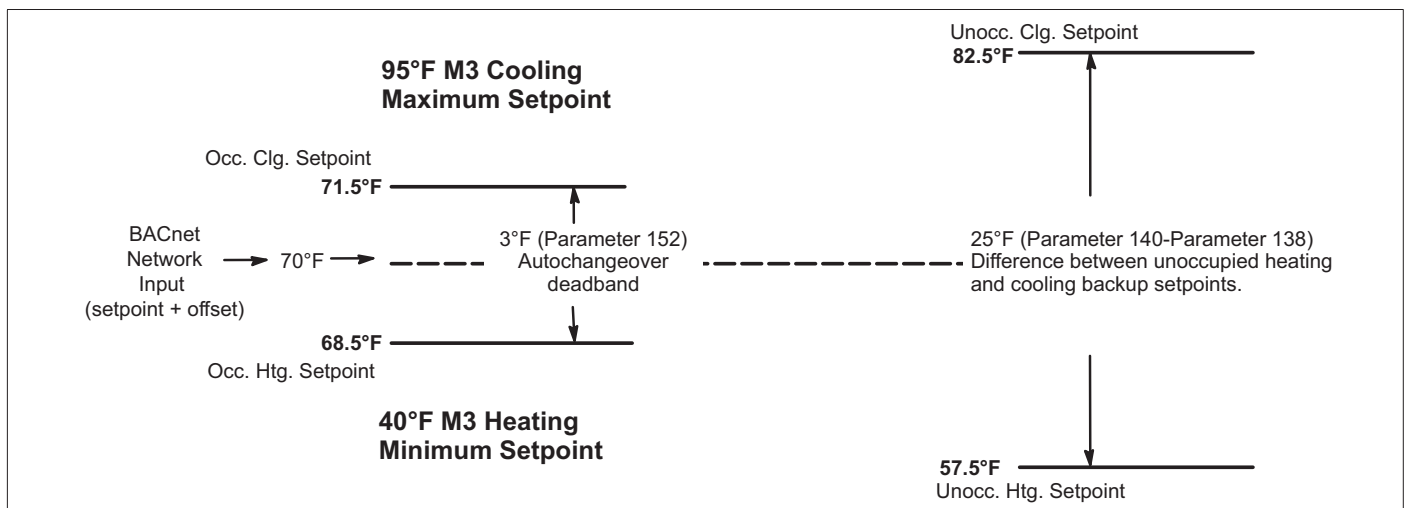

Figure 3. M3 Default Setpoint Example (Room Sensor Installed)
- See "Figure 3. M3 Default Setpoint Example (Room Sensor Installed)" for an example of set points when the M3 is operating using parameter default values.